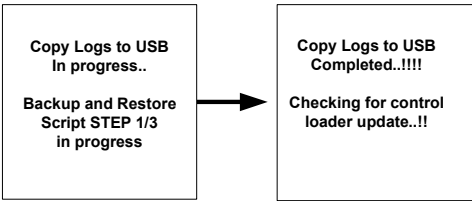

Figure 1-2 Copy Logs to USB completed screen
- 8. After successful boot up, inverter LCD display should show below message as shown in Figure 1-2 on page 1–5 and Grid LED and Fault LED should blink ON and OFF.